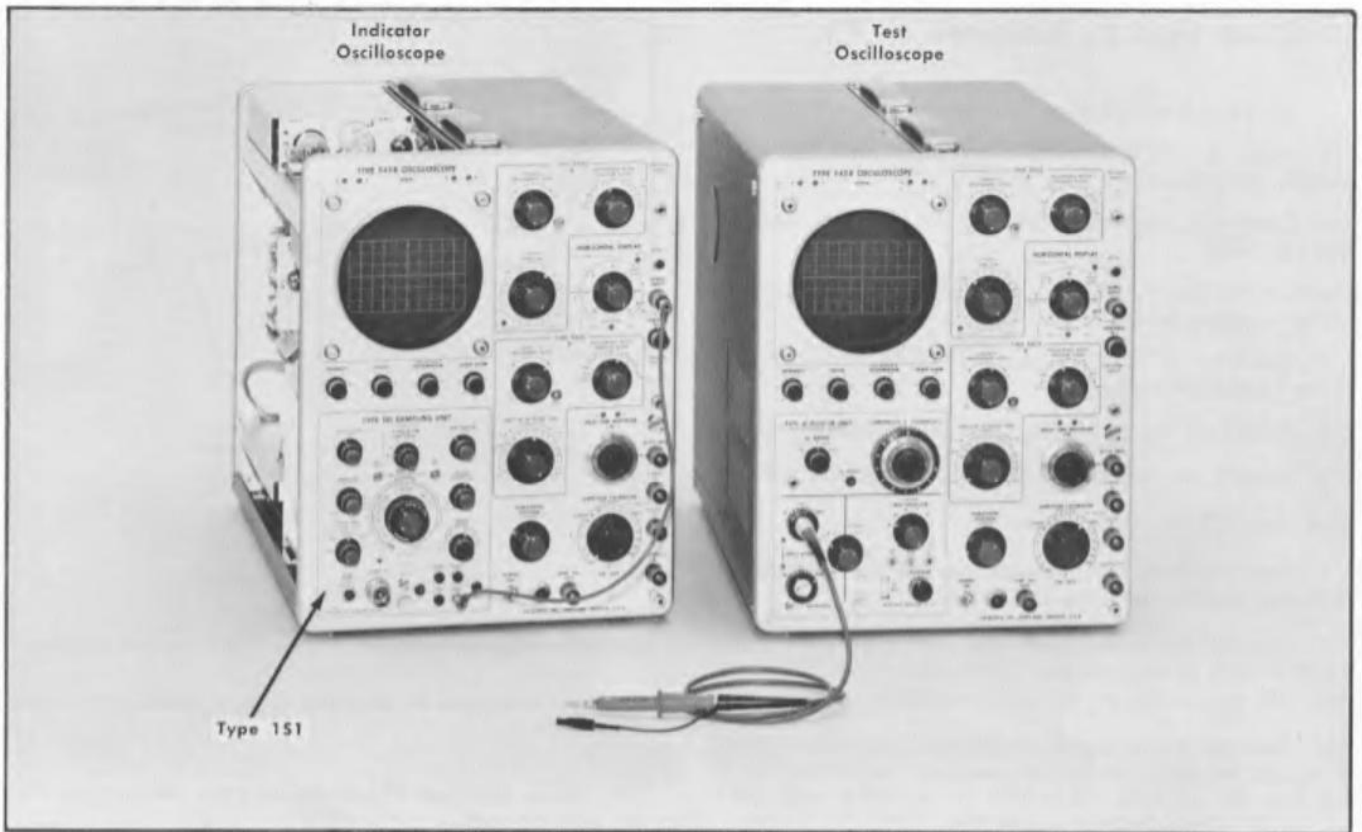

Fig. 5-26. Initial test equipment setup for steps 14 through 17.
- a. Test equipment setup is shown in Fig. 5-26.